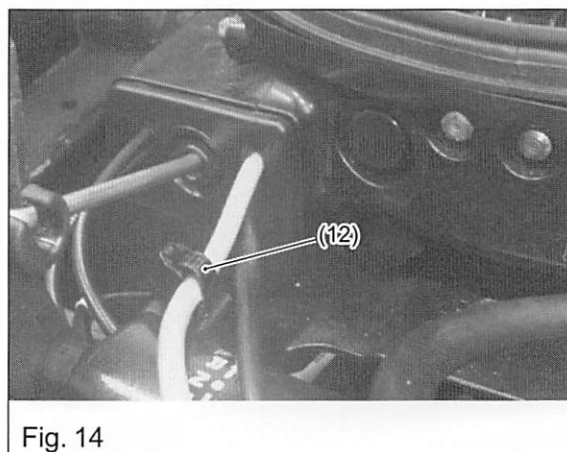

Fig. 14
The cut end of the clamp (12) must face downward as shown in Fig. 14.